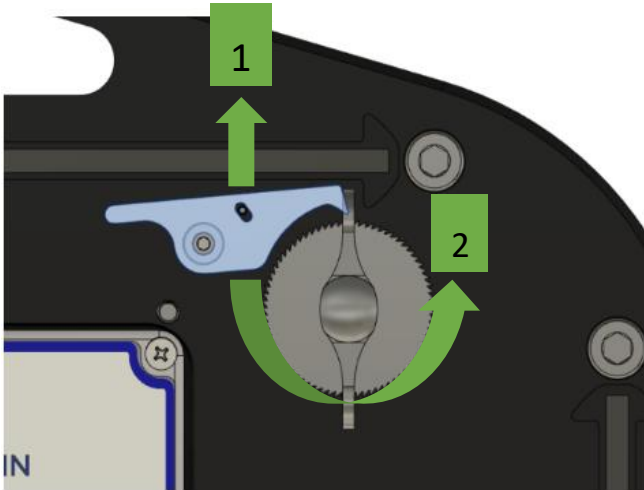

Fig. 13
5. Lift the tensioning pawl while holding the saddle tensioning knob in place; then slowly turn the tensioning knob counter-clockwise to release tension on the saddle (see Fig. 13).